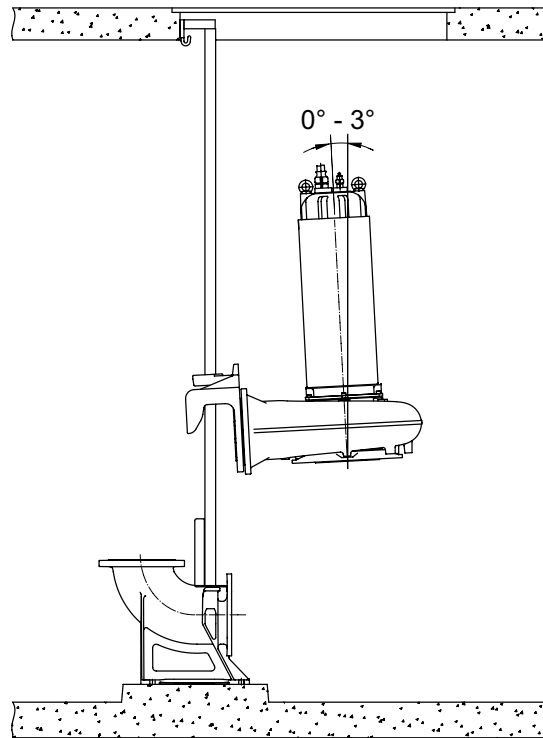

Figure 23 Lowering of the AFP
**ATTENTION** *Submersible pumps should be installed in accordance with Figure 23.*